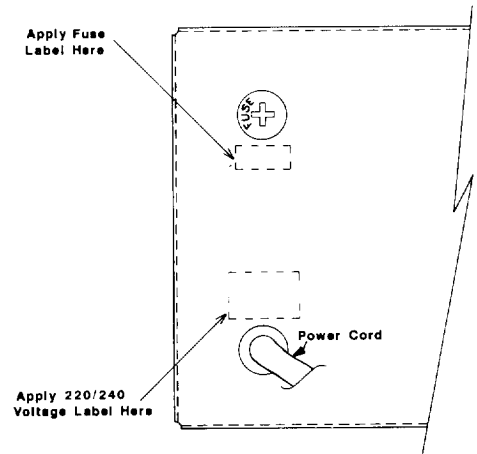

Figure 3. Application of International Voltage and Fuse Stickers
6. Affix the fuse label over the original silkscreened designation. Refer to Figure 3.